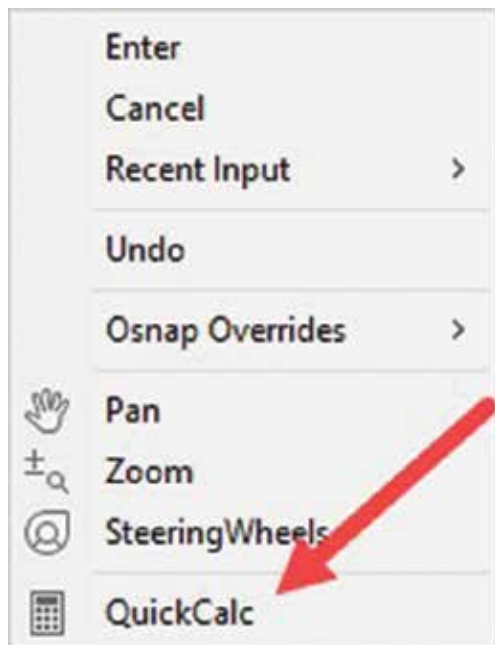

Figure 14
- Right-click to display the shortcut menu and choose QuickCalc (Figure 14).